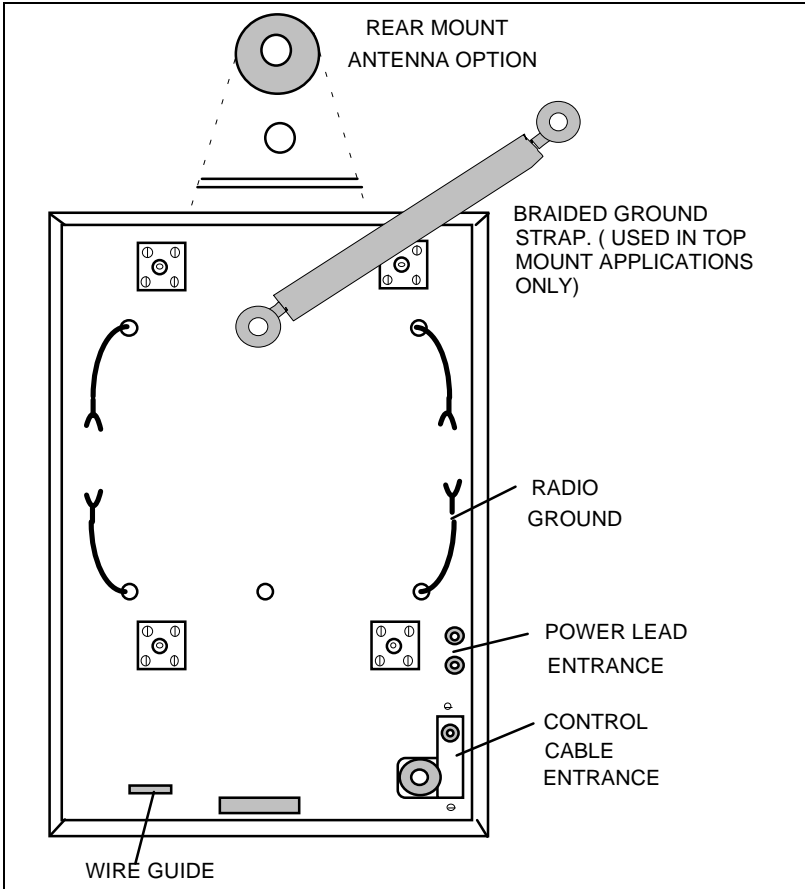

Figure 4. Weatherproof Box Assembly
3. Insert the large rubber grommet into the metal cable cutout and slide the cable cutout w/ grommet into the slot on the bottom of the weatherproof box. Secure with the two 1/4 X 20 machine screws and locking nuts provided. See Figure 4.
When using the recommended antenna ground strap, (top mount applications only) install the end of the braided and sleeved ground strap with the small terminal under the center rear bolt head as shown in Figure 4.
2. Split the large grommet provided and install it on the control cable. Then slide the grommet into the cutout on bottom of the case as shown in Figure 4. Leave enough slack at the radio end to allow the cable to be easily connected to the radio, and for the radio to be pulled out of the case for servicing.